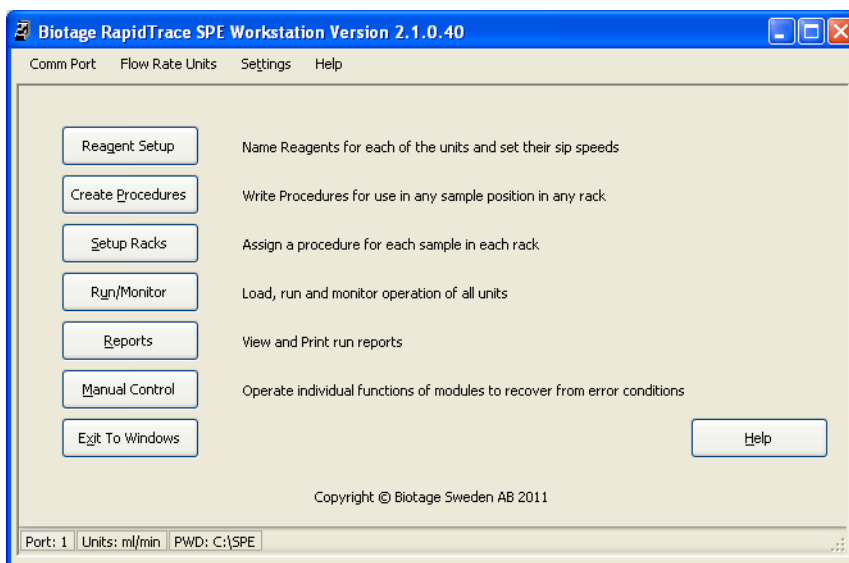

Figure 11. RapidTrace⁺ Methods Development Software
- 1 Select **Start**→**Programs**→**Biotage**→**RapidTrace SPE**→**SPE** or double-click the **SPE** desktop icon. The main window opens as shown in Figure 11.